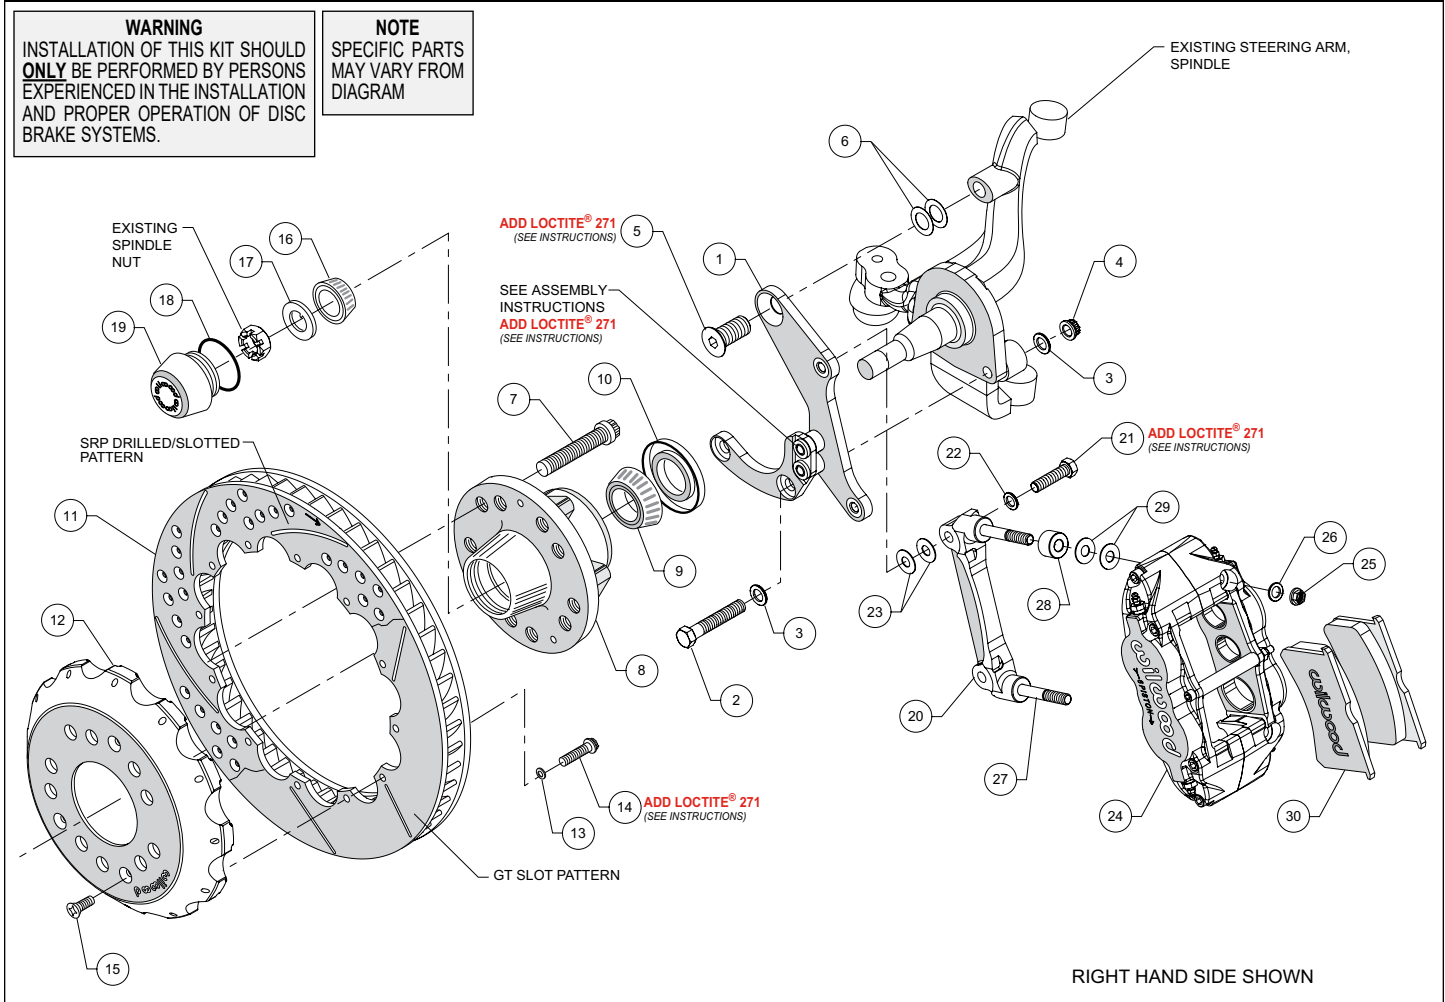
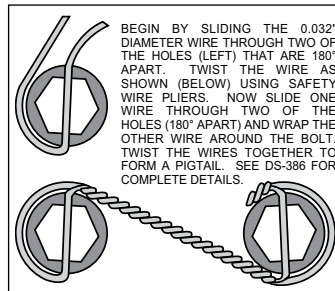

Figure 1. Typical Installation Configuration
Figure 3. Safety Wire Diagram
NOTE: Numbers in parenthesis refer to the parts list and Figure 1 on the preceding pages.
- The spindle bracket (1) has been assembled at the factory for alignment purposes. Loosen the two bolts that secure the brackets together so that the bolts are hand tight only. This will enable the bracket assembly to be adjusted to accommodate various spindle tolerances during assembly. Align bracket with the two lower holes on the spindle face and attach using bolts (2), washers (3), and secure using nuts (4), as shown in Figure 1 and Photo 1. Install bolt (5) through top of bracket while placing shims (6) between bracket and spindle, Figure 1. Initially use two .024" thick shims (6) on the top bolt between the bracket and upright. Temporarily tighten the mounting bolts. Ensure that the flanged heads of the clinch nuts in the bracket are facing outboard, Photo 1. **NOTE:** The bracket must fit squarely against the mounting points on the spindle. Inspect for interference from casting irregularities, machining ridges, burrs, etc. Some spindles may require a small amount of grinding to clear the bracket assembly in the area of the bracket-to-bracket spacers.
- Check that the bracket is aligned parallel to the rotor by assembling and installing the hub/rotor per the step below. If not, adjust by adding or subtracting shims (6) between the spindle and bracket, Figure 1.
- Install wheel studs (7) into the hub (8), Photo 2. Torque to 77 ft-lb. **NOTE:** There are two five lug patterns in the hub (5 x 4.50 and 5 x 4.75). Ensure the correct hub stud pattern is being used to fit the wheel application.
- Pack the large inner bearing cone (9) with high temperature disc brake bearing grease (available from your local auto parts store) and install into the backside of the hub (8), Photo 3.
- Install the grease seal (10) by pressing into the backside of the hub (8), flush with the end of the hub, Photo 3.
- Orient the rotor (11) and the hat (12) as shown in Figure 1 and Photo 4. Attach rotor to hat using bolts (14) and washers (13). Apply red *Loctite*® 271 to the bolt threads and torque to 155 **in-lb** using a criss-cross pattern. For an added measure of security, the bolts may be safety wired using standard 0.032 inch diameter stainless steel safety wire as shown in Figure 3. Refer to Wilwood's data sheet DS-386 (available at www.wilwood.com/Pdf/DataSheets/ds386.pdf) for complete safety wire installation instructions.
- Pack the small outer bearing cone (16) with high temperature disc brake bearing grease and install into hub (8). Slide the hub assembly onto the spindle. Secure using spindle washer (17) and OEM spindle nut, Photo 5. Adjust bearings per OEM specifications. Install saved OEM nut lock (if any) and a new cotter pin (not included).
- Screw dust cap (19) into hub (8), Photo 6. Friction created by the o-ring (18) on the dust cap keeps it from unscrewing. **NOTE:** *The O.D. of the existing OEM spindle washer may be larger than the I.D. of the dust cap not allowing it to seat against the hub face. Therefore, use the spindle washer (17) supplied with the kit instead of the OEM washer.*
- Slide the hat/rotor assembly (11/12) onto the hub (8) taking care to align the small countersunk holes in the hat (12) with the small threaded holes in the hub. **NOTE:** *The hat must fit flush against the hub face or excessive rotor run out may result.* Install three flat head screws (15) through the small holes in the hat, Photo 6, and torque to 85 **in-lb**.
- The caliper mount bracket (20) should initially be installed with clean, dry threads on the mounting bolts. Orient the bracket as shown in Figure 1 and Photo 7, and install using bolts (21) and washers (22). Initially place two .035" thick shims (23) on each bolt between the bracket and the spindle bracket (1), Figure 1. Temporarily tighten the mounting bolts. Later, after the caliper alignment has been checked, the mount bolts will be secured using red *Loctite*® 271.
- NOTE:** *This kit contains distinct right and left hand calipers that must be mounted in a specific direction, as described below.* Initially place two .035" thick shims (29) and one spacer (28) on each stud (27) between the caliper and the bracket, as shown in Figure 1 and Photo 8. Mount the caliper (24) onto the bracket (27) using lock nuts (25) and washers (26), Figure 1. Ensure that the caliper is mounted so the largest pistons are at the rotor exit end of the caliper, in relation to the direction of rotor rotation. Temporarily tighten the lock nuts and view the rotor through the top opening of the caliper. The rotor should be centered in the caliper, Photo 9. If not, adjust by adding or subtracting shims (23) between the spindle bracket (1) and the caliper bracket.